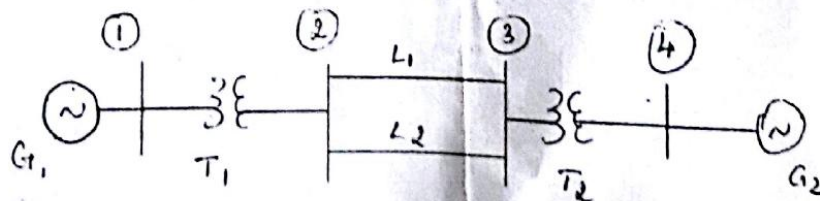

Fig.13(b)
- (b) Draw the flow chart and explain the algorithm of Newton-Raphson iterative method when the system contains all types of buses. (16)
13. (a) A generating station feeding a 132 kV system is shown in fig. 13(a). Determine the total fault current, fault level and fault current supplied by each alternator for a 3 phase fault at the receiving end bus. The line is 200 km long. (16)
- (b) A Symmetrical fault occurs at bus 4 for the system shown in Fig 13.(b). Determine the fault current using Zbus Building algorithm. (16)